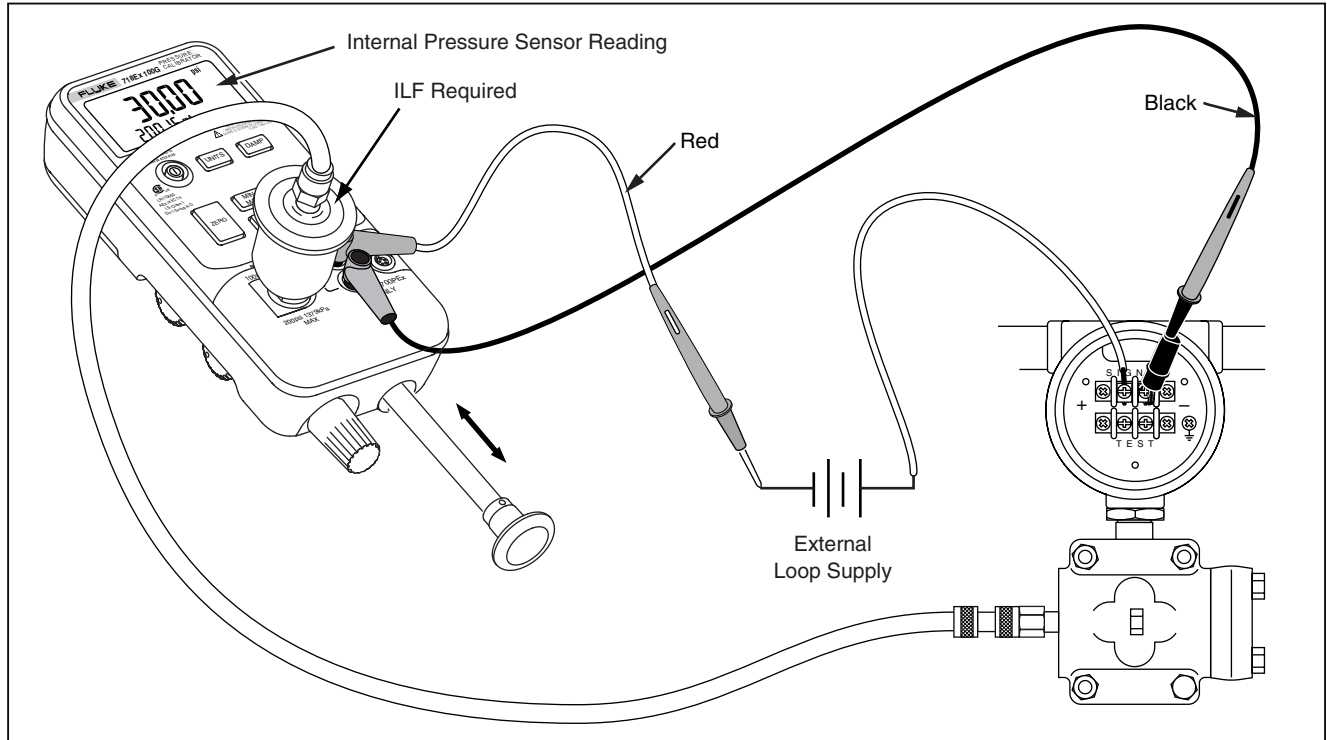

Figure 4. Internal Pressure Sensor with Internal Pump
The preferred use for the internal pump is shown in Figure 4, where the Calibrator displays pressure measured with the internal sensor and provided by the internal pump.
2. Connect the pressure transmitter under test to the Calibrator internal sensor as shown in Figure 4 (for internal pressure sensor measurements) or Figure 5 (for pressure module measurements.)